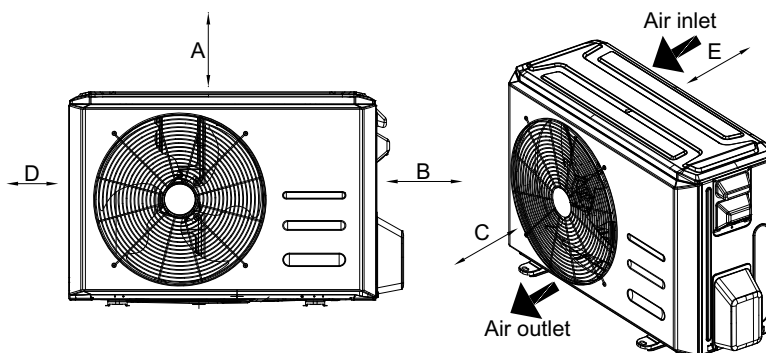

Fig. 7 — Clearances
- A location which provides appropriate clearances (See Fig. 7 — on page 15).
- Allow sufficient space for airflow and service of the unit. See Fig. 7 — on page 15 for the required minimum distances between the unit or walls.